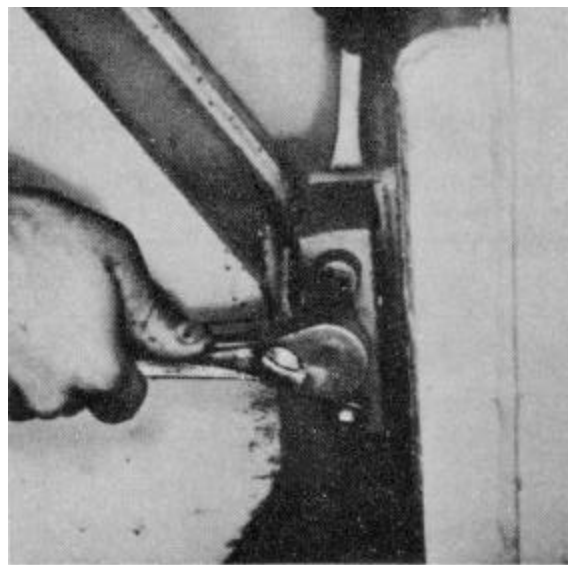

Figure 5-70
6. Remove the two bolts and lock nuts from the front trunnion block (Fig. 5-70).